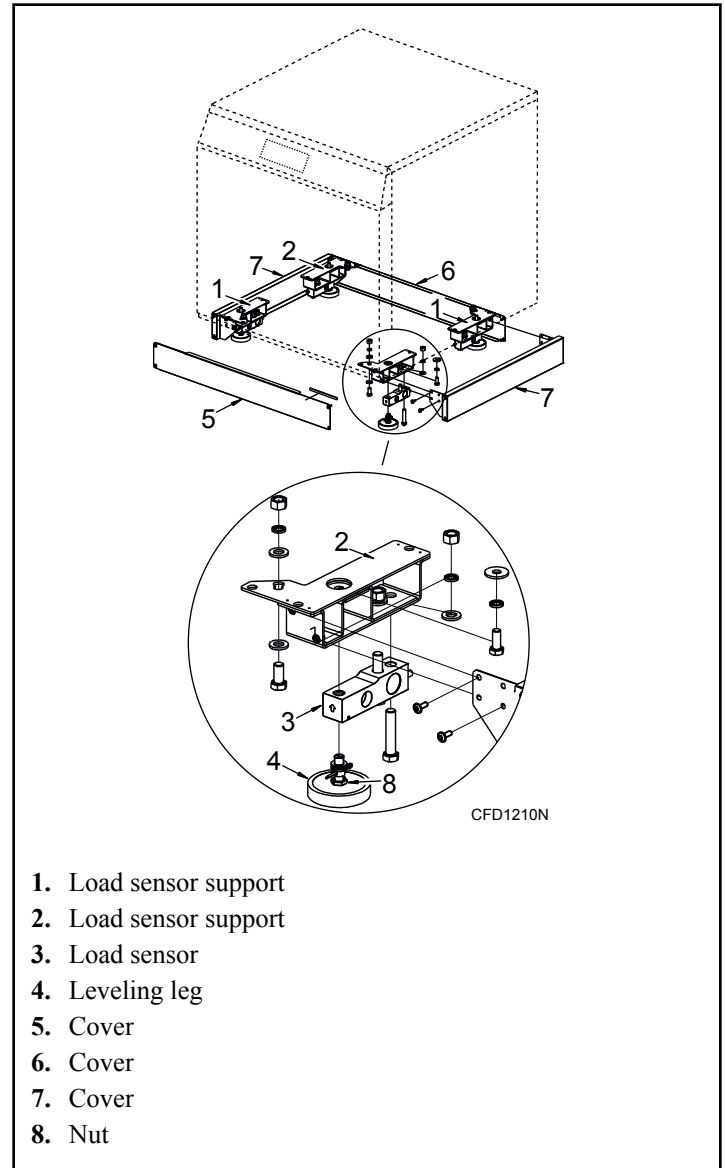

Figure 6
2. Install two left load sensor supports and two right load sensor supports to the machine frame. Refer to *Figure 6*.
11. Install the covers. Refer to *Figure 6*.